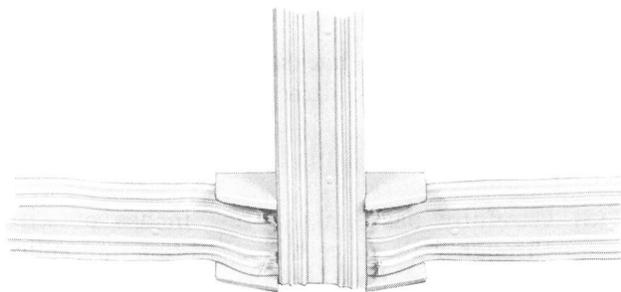

Fig. 9—Wire Tap Using No. 718 Tap
- (3) When making a tap from a wire run, place end of tap wire over existing wire to the edge of the tap (Fig. 9). Cover-mounting screw